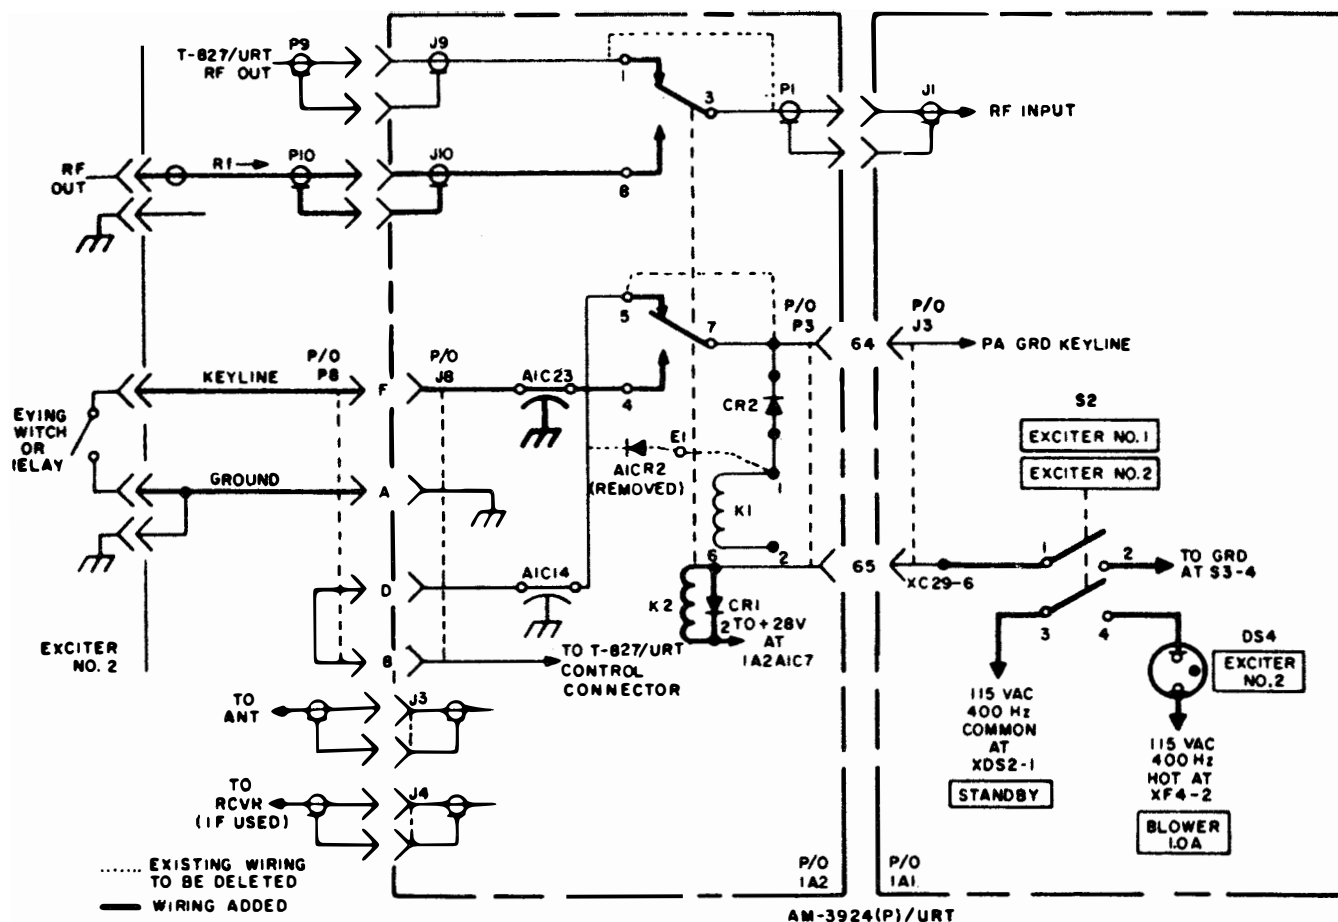

Figure 2-6. Exciter No. 2 Modifications, Schematic Diagram
2-55. To make the necessary changes to the AM-3924(P)/URT to permit use of a second exciter, follow the procedure below. The reference designators listed in table 2-11 and on figure 2-6 will be used for the new parts. Figure 2-6 is a partial schematic of the AM-3924(P)/URT showing the modifications required. Carefully solder all connections and cover exposed terminations with plastic tape or tubing. Use #22 AWG stranded wire, plastic insulated for 500 volts minimum for all wiring. During the installation, do not disturb or remove existing wiring and connections unless directed to do so.
a. Correct figures 2-4, 5-24, and 5-18 to show the wiring changes made during the modification (use figure 2-6 as a guide).